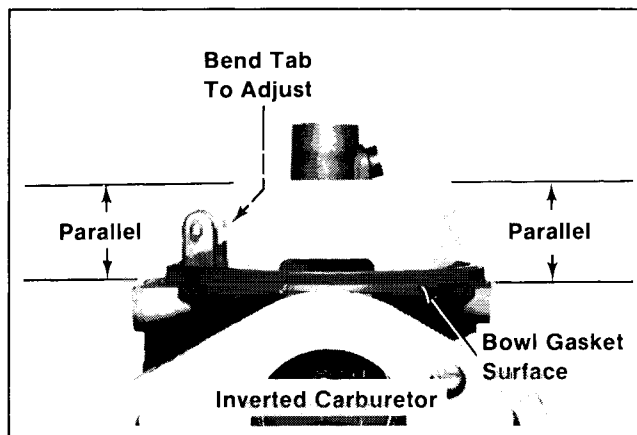

Figure 6-30. Setting Float Level.
4. **Set Float Level:** Invert the carburetor so the float tab rests on the fuel inlet needle. The exposed surface of float should be **parallel** with the bowl gasket surface of the carburetor body (exposed, free end of float .690" / .720" from bowl gasket surface). Refer to Figure 6-30.